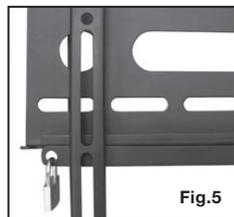

Fig.5
2. Insert the safety bar at the bottom of the mount to prevent the display from being lifted from the wall plate. A padlock can be inserted into the end of the bar to help prevent theft of your display (see Fig.5).